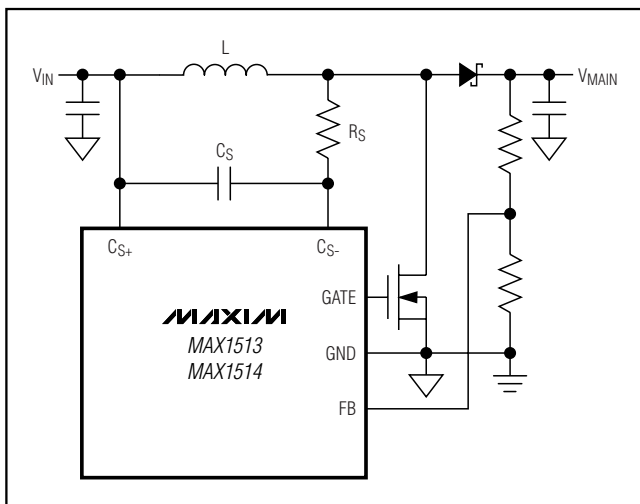
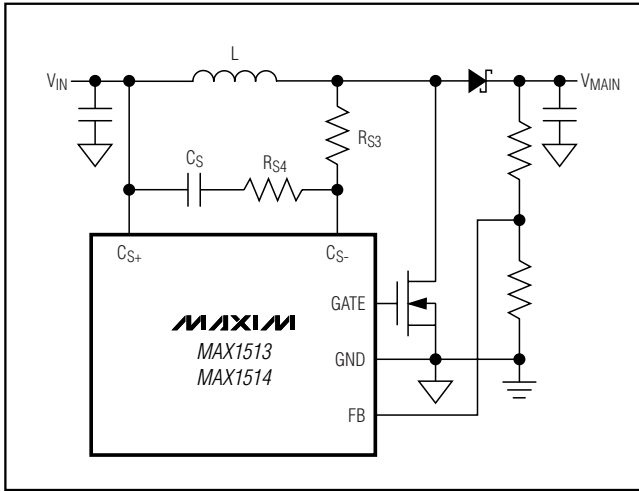

Figure 8. Lossless Current Sensing with 80mV <  $V_{SENSE}$  < 100mV
Figure 10. Lossless Current Sensing with  $V_{SENSE} < 80mV$
4) Compare the calculated sense voltage with the minimum value of the current-limit threshold in the *Electrical Characteristics* (100mV). If the sense voltage is between 80mV and 100mV, use the current-sense configuration in Figure 8 with the calculated  $C_S$  and  $R_S$  above.
6) If  $V_{SENSE}$  is less than 80mV, the current-feedback signal is low relative to the current-limit threshold. Use the Figure 8 configuration, or, if good current-limit accuracy is desired, use the optional current-sense configuration in Figure 10 to increase the amplitude of the sense signal. Calculate  $R_{S3}$  and  $R_{S4}$ :
Because  $V_{SENSE}$  would be between 80mV and 100mV, the circuit in Figure 8 should be used. The closest 1% standard value for  $R_S$  is 909 $\Omega$ .
Because  $V_{SENSE}$  would be much less than 80mV, the circuit in Figure 10 can be used to improve the current-limit accuracy. Calculate  $R_{S3}$  and  $R_{S4}$ :